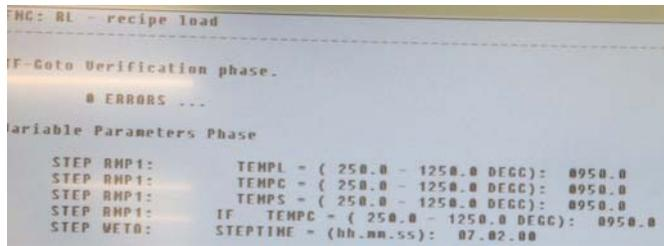
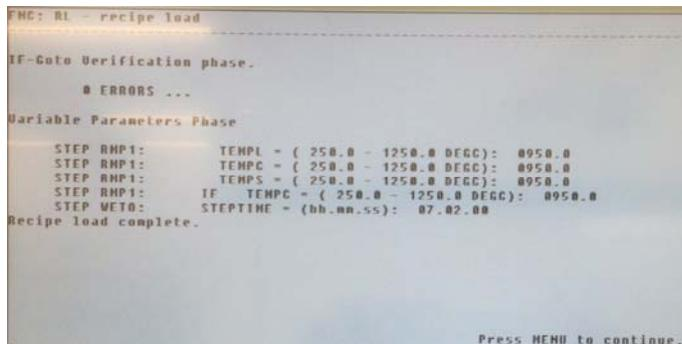

Figure 11: Enter process time
Figure 12: Recipe loaded successfully
- 9.3.6. Time is entered in the format of HH.MM.SS. Do not enter 00.00.00 since it will hold the process at the step indefinitely (Fig. 11). Press ENTER to show the recipe load complete message on screen (Fig. 12).